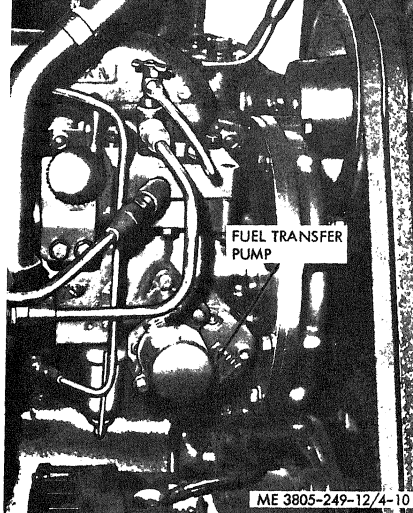

Figure 4-10. Fuel transfer pump.
a. *Removal.* Refer to figure 4-10.
(1) Disconnect the drain line, fuel supply line,